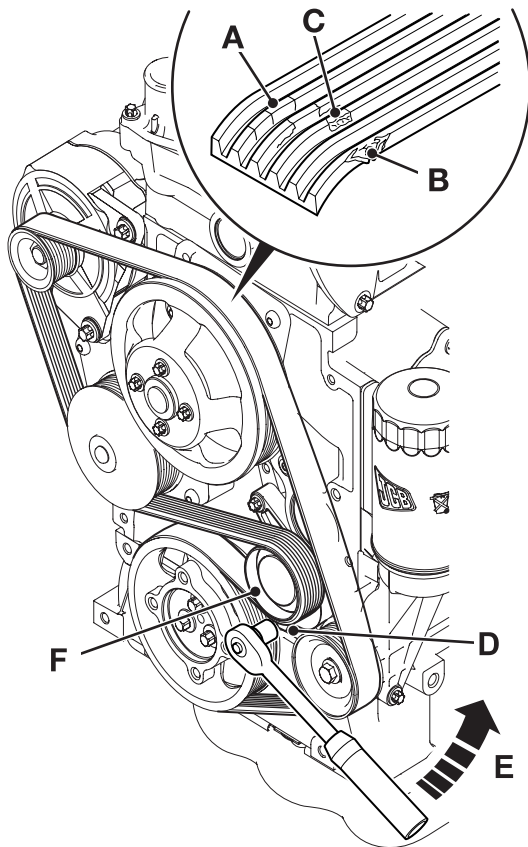

Fig 36.
- 3 Inspect the belt for cracks **A**, fraying **B** or missing pieces **C**. ⇒ Fig 36. \(□ 3-73\).
- 6 Fit the new drive belt around the pulleys. ⇒ Fig 36. \(□ 3-73\).